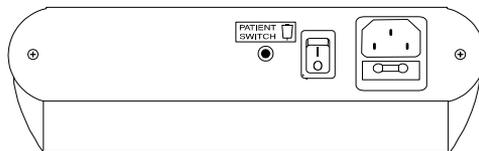

Figure 3.1— Sys\*Stim 208A, Back View—Mains Power Switch, Line Cord Connection and Patient Safety Switch Connection
1. Connect the line cord to the back of the Sys\*Stim 208A. (See Figure 3.1)
5. Plug the patient safety switch (ME2031) into the back of the unit as seen in Figure 3.1.